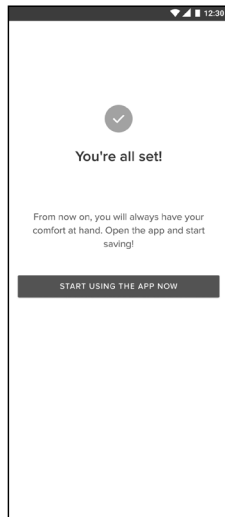

FIG. 9
- Choose a name for your system and that’s it! (FIG. 9)